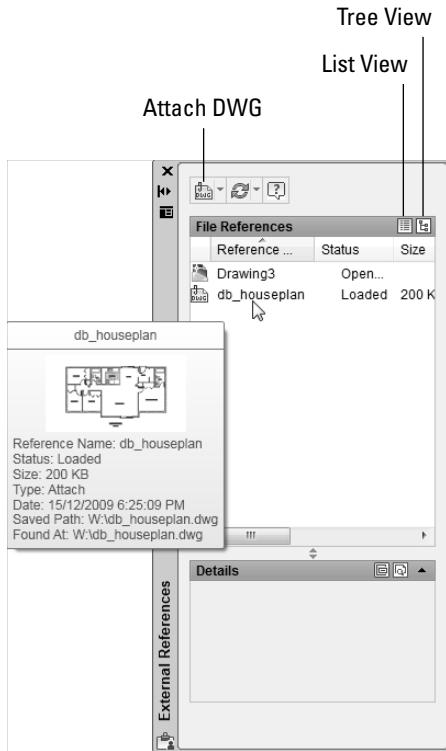

Figure 18-5:
3. Click Attach DWG. (Click the down arrow if the tooltip offers to attach something else — see Figure 18-5.)
- ✓ **List of external references:** You can change between the List view and Tree view of your drawing's external references just by clicking the appropriate button at the top of the palette (refer to Figure 18-5). You can resize the columns by dragging the column dividers or re-sort the list by clicking the column header names, just as in Windows Explorer.